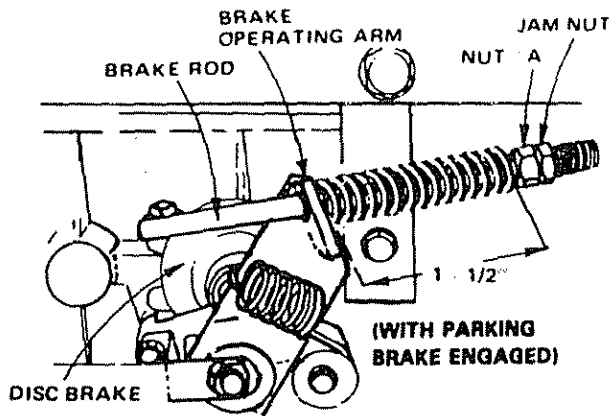

FIGURE 10
This tractor is equipped with an adjustable brake system mounted on the right side of the transaxle (Fig. 10).
- If distance is other than 1-1/2", disengage parking brake, loosen jam nut (Fig. 10) and turn nut "A" until distance becomes 1-1/2", Retighten jam nut against Nut "A".